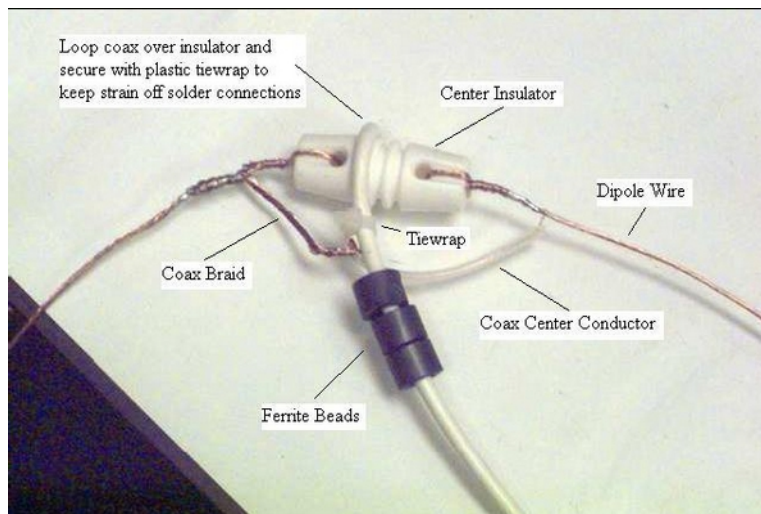

Figure 4. Attach the 1λ coax to the center insulator
5. ○ Loop the coaxial cable over the center insulator and tie wrap or tape it (Figure 4) just below the section of stripped coax. This will provide strain relief so the solder joints will not break.